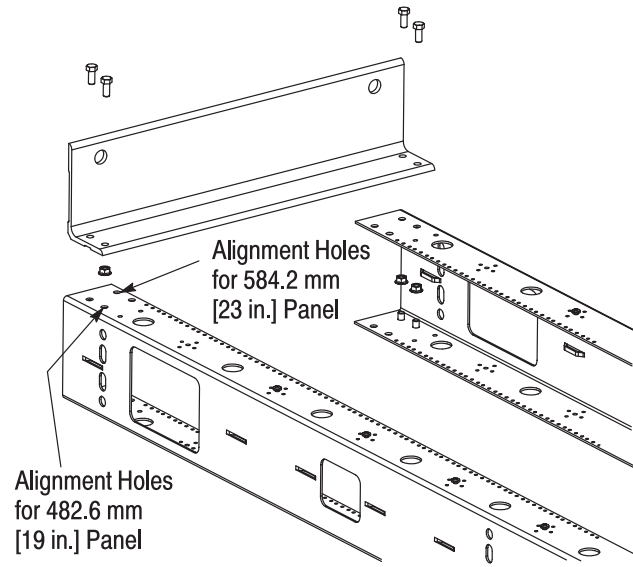

Figure 2
1. Lay the uprights on a flat surface as shown in Figure 2.
3. Fasten bottom angle to upright using four (4) 3/8 in.-16 x 7/8 in. hex head cap screw and flange nuts. *Finger tighten.* See Figure 2.
8. Fasten bottom angle to upright using four (4) 3/8 in.-16 x 7/8 in. hex head cap screw and flange nuts. *Finger tighten.* See Figure 2.